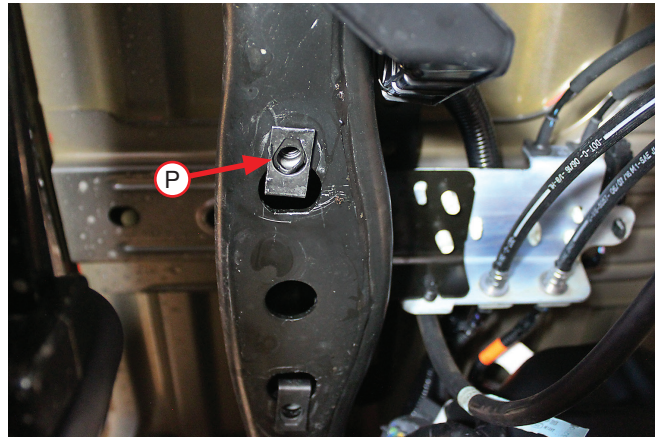

Fig. 5
4. Install the universal nuts (P) into the frame rail, lining up the holes in the frame and the threads in the nuts so that a bolt can be installed (Fig. 5).